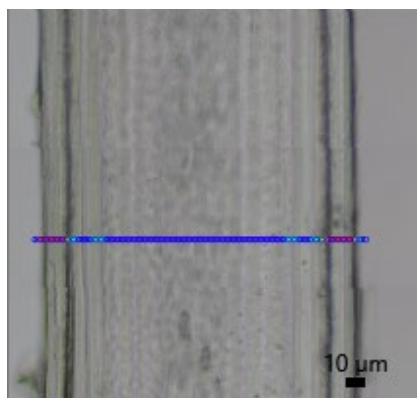
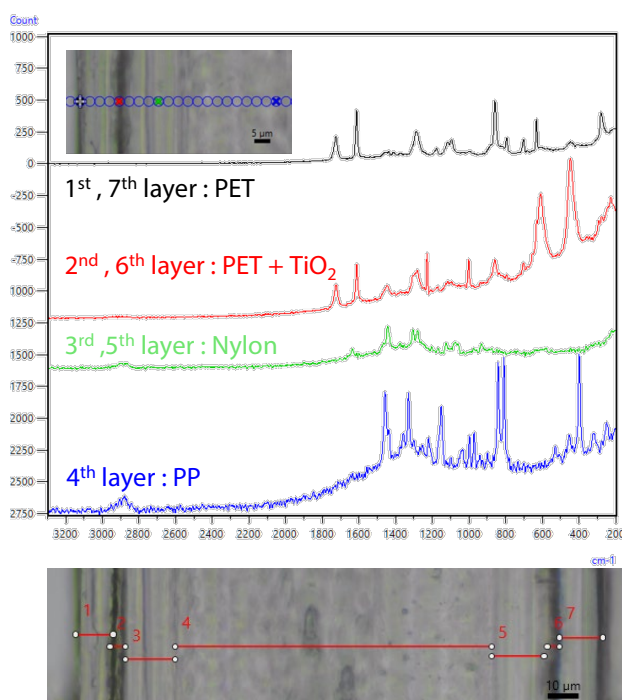

Fig. 3 Distribution of different materials according to the performed line measurement (step width 3 μm, 61 measurement points)
Fig. 4 Raman spectra and length measurements of the identified layers
A line scanning measurement was initially performed to identify the boundaries between the different materials/layers of the sample. A 100x objective lens was used with a laser spot diameter of 3 µm. Fig. 3 shows the distribution of the different materials which allowed the identification of the boundaries of the layers. By utilizing the new length measurement feature of AMsolutions, it was possible to measure the length of each layer. Moving from the outer sides to the inner part of the cross section, it was successfully identified that the outer layers are polyethylene terephthalate (PET) with an average thickness of 12 µm. The next layers, approximately 4 µm thick each, comprise a mixture of PET and titanium dioxide (TiO2), which is commonly used in the food packaging industry. Next, two layers of nylon, approximately 16 µm thick each, were identified. Finally, the middle part was identified as polypropylene (PP) with a thickness of 105 µm (Fig. 4).